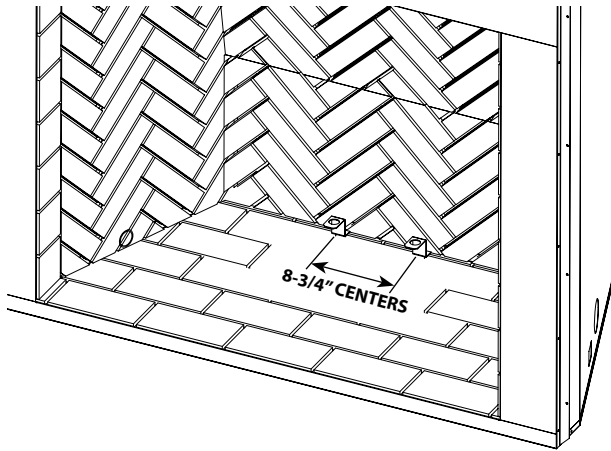

Figure 34 - Installing (2) Grate Retainers
8. Install the (2) provided grate retainers that hold the grate in place on the hearth brick panel (**Figure 34**). The back of the retainer will be flush with the rear firebox wall. Mark the hole locations with a marker. Next, take a 1/8" masonry drill bit and drill pilot holes in the marked locations. Secure the grate retainer with masonry screws provided.